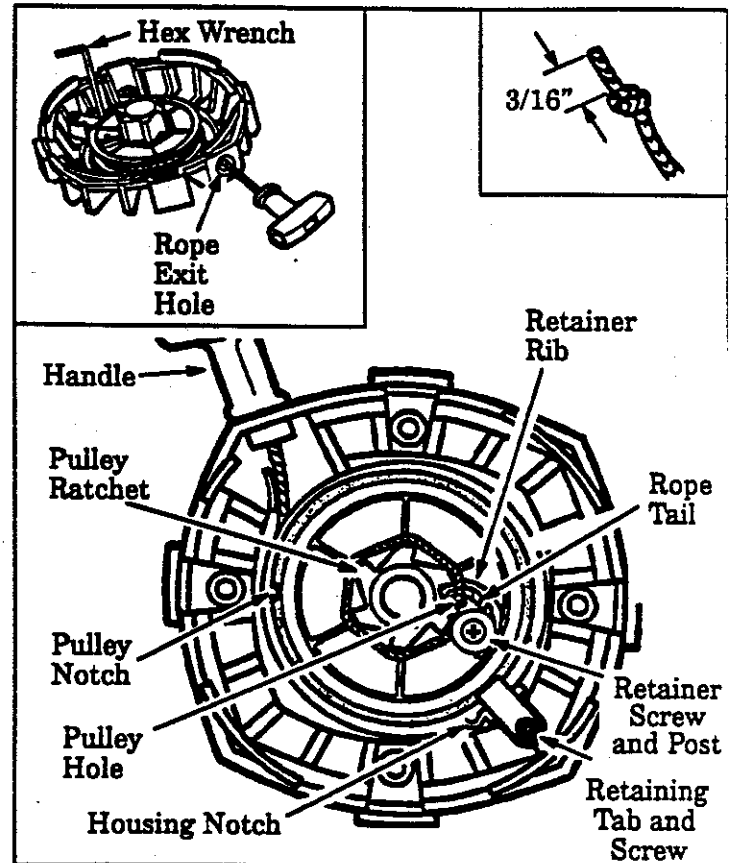

Figure 29
8. Remove Rope Retaining Screw and remove any remaining rope. (Figure 29).
9. Hold Pulley Housing as shown in Figure 29. Hand turn the Pulley clockwise as far as it will go. Then, turn the Pulley counterclockwise until the Pulley Notch is aligned with the Housing Notch next to the Retaining Tab and Screw. Figure 29.
11. Insert the small hex wrench into the hole formed by the Notches to hold the Pulley in position. Figure 29 (inset-upper left).
15. Insert one end of the Rope through the Handle and secure with a knot. Leave a 3/16" tail behind the knot. Figure 29 (inset-upper right).
16. Insert the other end of the Rope through the Rope Exit Hole into the inside of the Housing, into the Pulley and up through the Pulley Hole. Figure 29 .
17. Wrap the Rope counterclockwise around the Pulley Ratchet and tuck loose end under the Rope at the Pulley Hole. Figure 29 . Leave a 1 inch tail laying between the retainer rib and the Rope Retaining Screw/Post. Figure 29 .
18. Thread Rope Retainer Screw into the Rope Retaining Post. Tighten screw until the washer is snug against the either the rope or the screw post. Pull firmly on rope to tighten it against the pulley ratchet. Figure 29 .